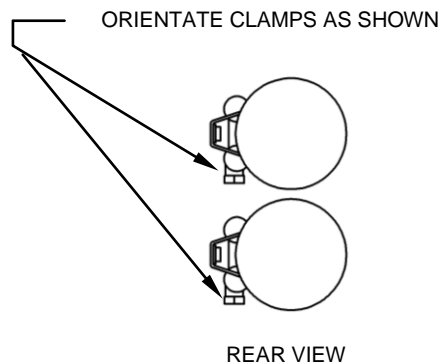

FIGURE 2
6. Slide one supplied clamp onto each muffler and position as shown in figure 2.
10. To install the front heatshield, first slide the rear portion of the heatshield over the muffler, continue to slowly slide it forward pushing the front of the shield gently into place between the frame and motor (Hint: Spread the hose clamps apart slightly to make it easier to slide them over the muffler assembly and head pipes). Make sure the muffler clamps don't interfere with the heatshields and are aligned as shown in figure 2. Snug the heatshield clamps but **do not tighten**.